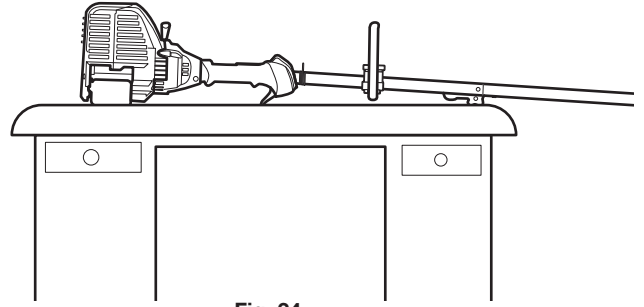

Fig. 24
2. **Set the unit on a flat, level surface**, such as a workbench or table. The cutting head shield should hang over the edge so that the engine is level (Fig. 24).